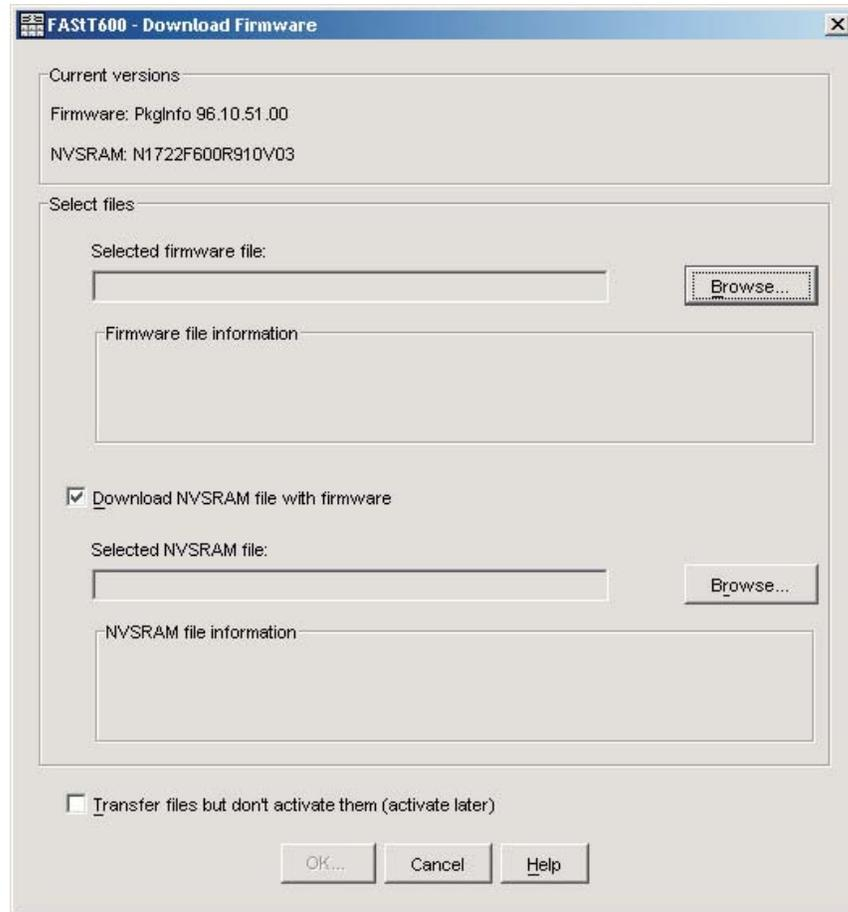

Figure 26. Download Firmware window
3. Click **Advanced** → **Maintenance** → **Download** → **Controller firmware....** The download firmware window opens as illustrated in Figure 26 on page 123.